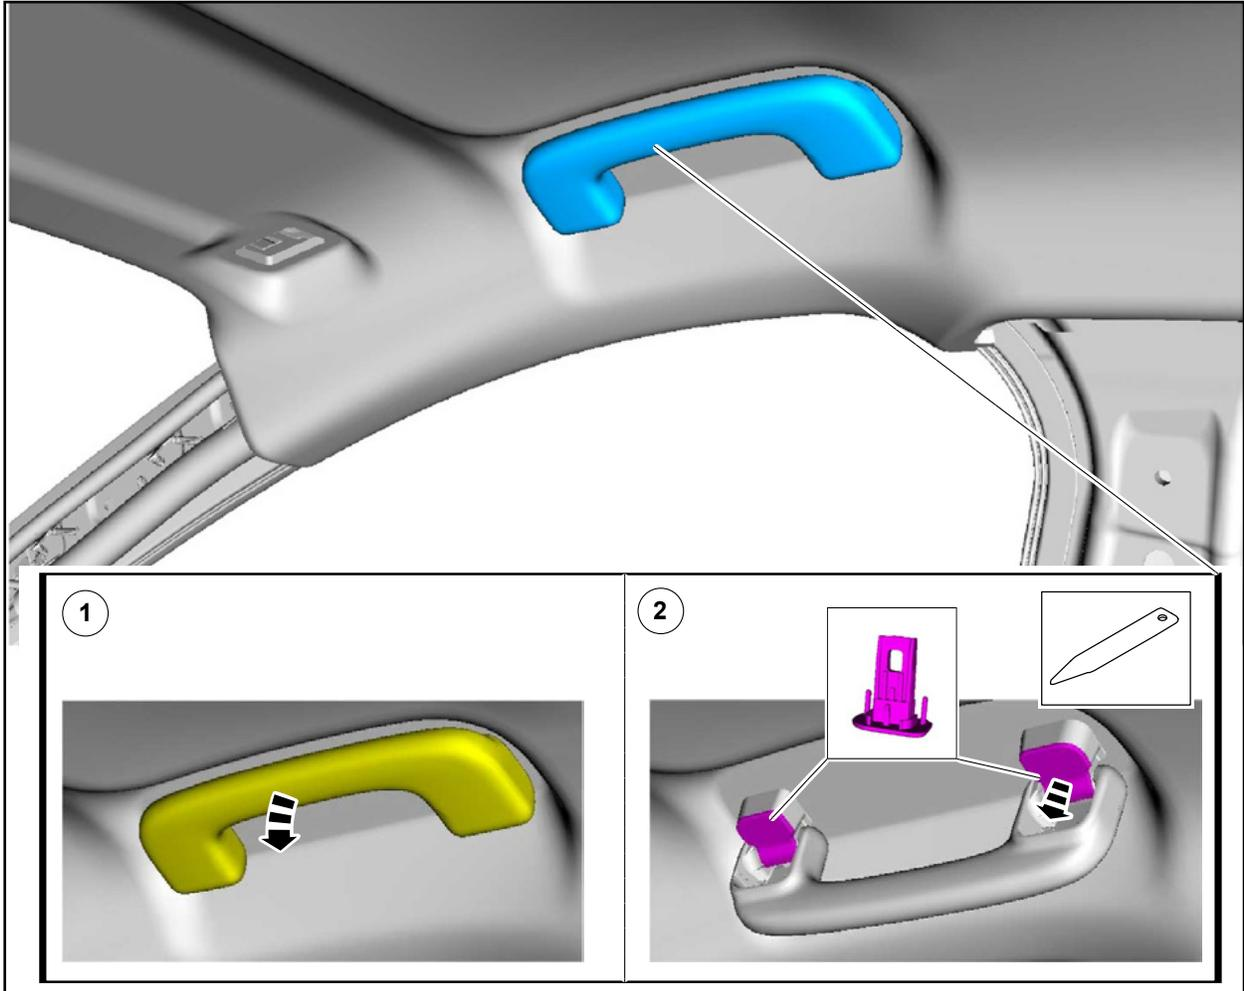

FIGURE 30
30. Remove the LH rear assist handle. See Figure 30.